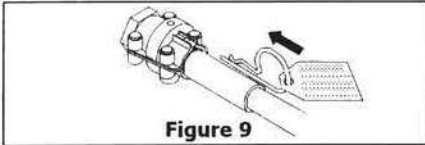

Figure 9
STEP 3. Replace pin as shown in Figure 9, making sure that it is fully seated. DO NOT REMOVE TAG FROM PIN.
STEP 3. Replace pin as shown in Figures 9 and 10, making sure that it is fully seated. DO NOT REMOVE TAG FROM PIN.
STEP 4. Replace the pins as shown in Figure 9, making sure that they are fully seated. If one pin cannot be inserted, that cable is not fully seated in the helm. Push on the cable to ensure that it is fully home. DO NOT REMOVE TAGS FROM HITCH PINS.